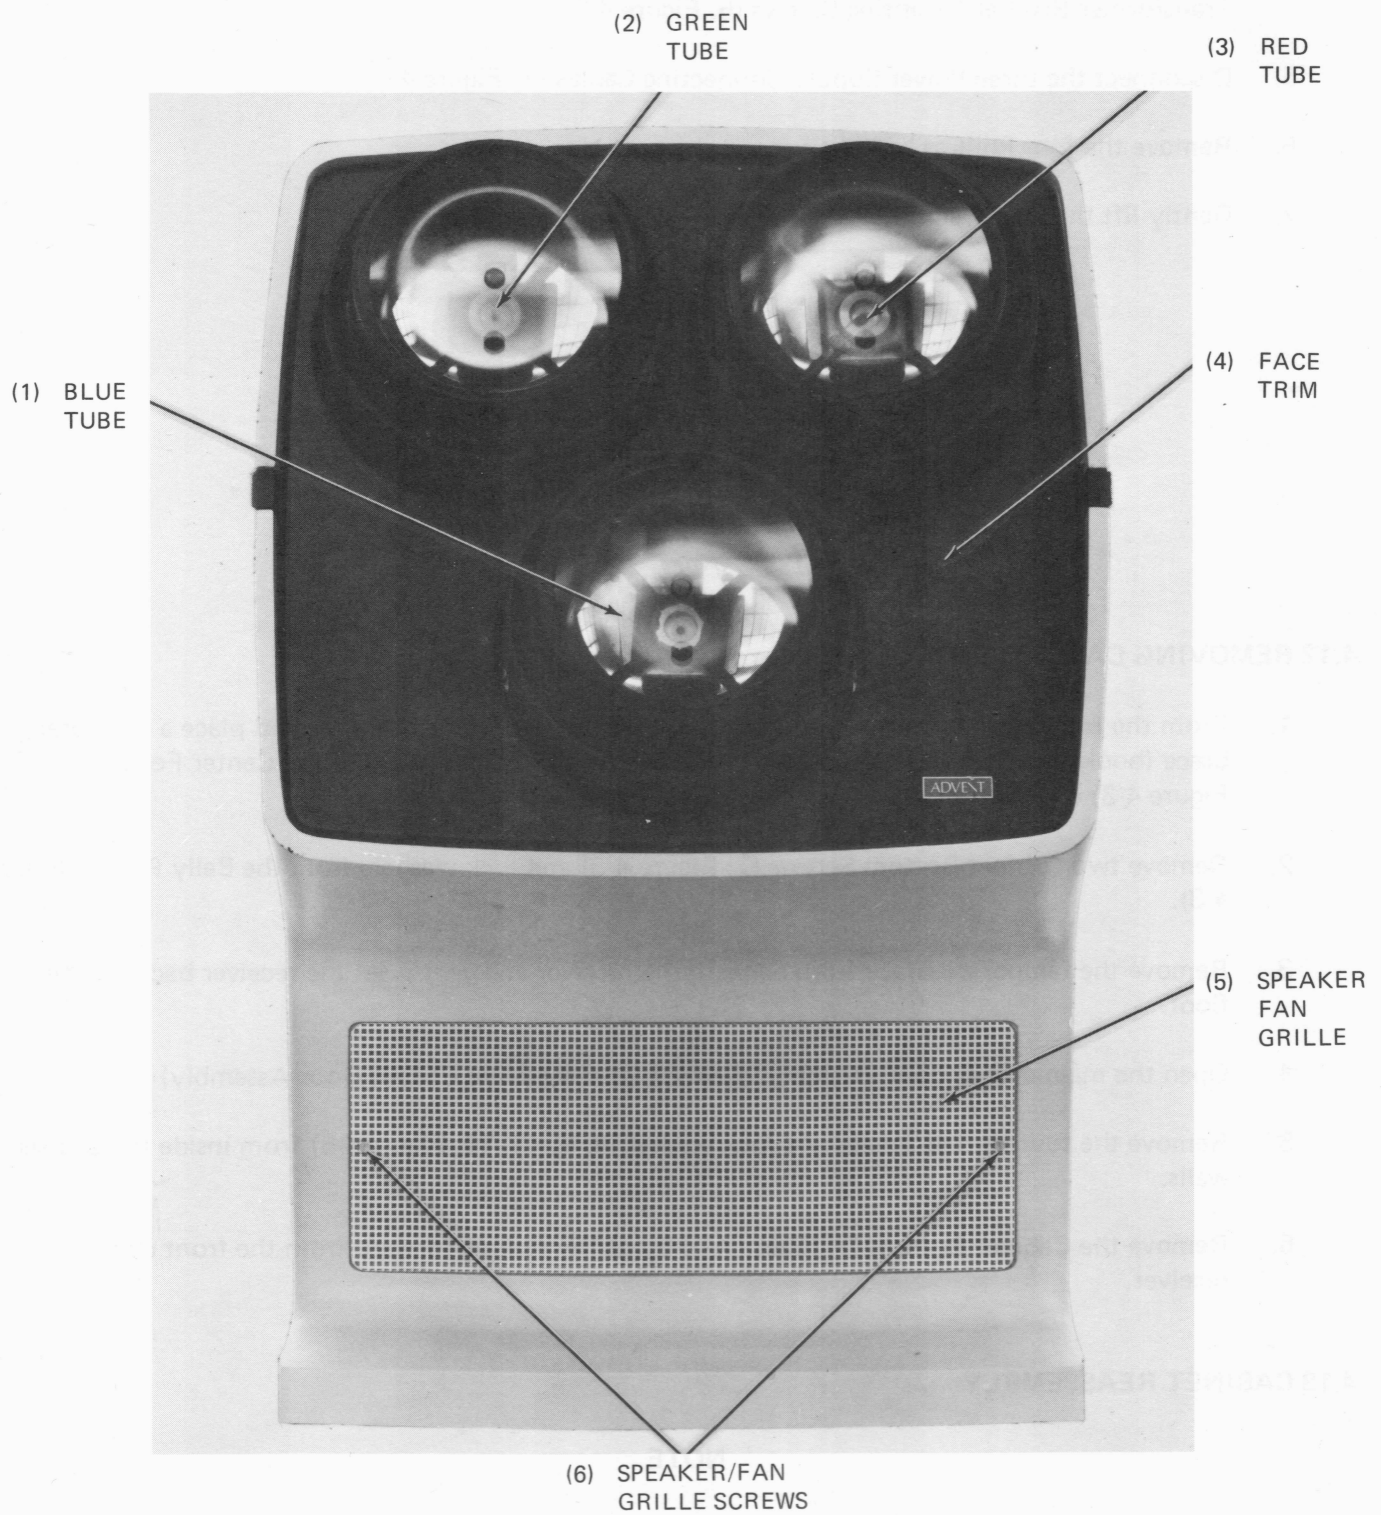

Figure 4-1. FRONT VIEW
1. Remove the two slotted nylon speaker/fan grille screws (6, Figure 4-1).
2. Using a blade screw driver carefully pry the Speaker/Fan Grille (5, Figure 4-1) forward around the edges until it can be removed.
1. Using the Removal Hook, insert at one top corner lip of Face Trim (4, Figure 4-1) and *gently* pull forward, gradually moving around the total Face Trim until removal is accomplished.